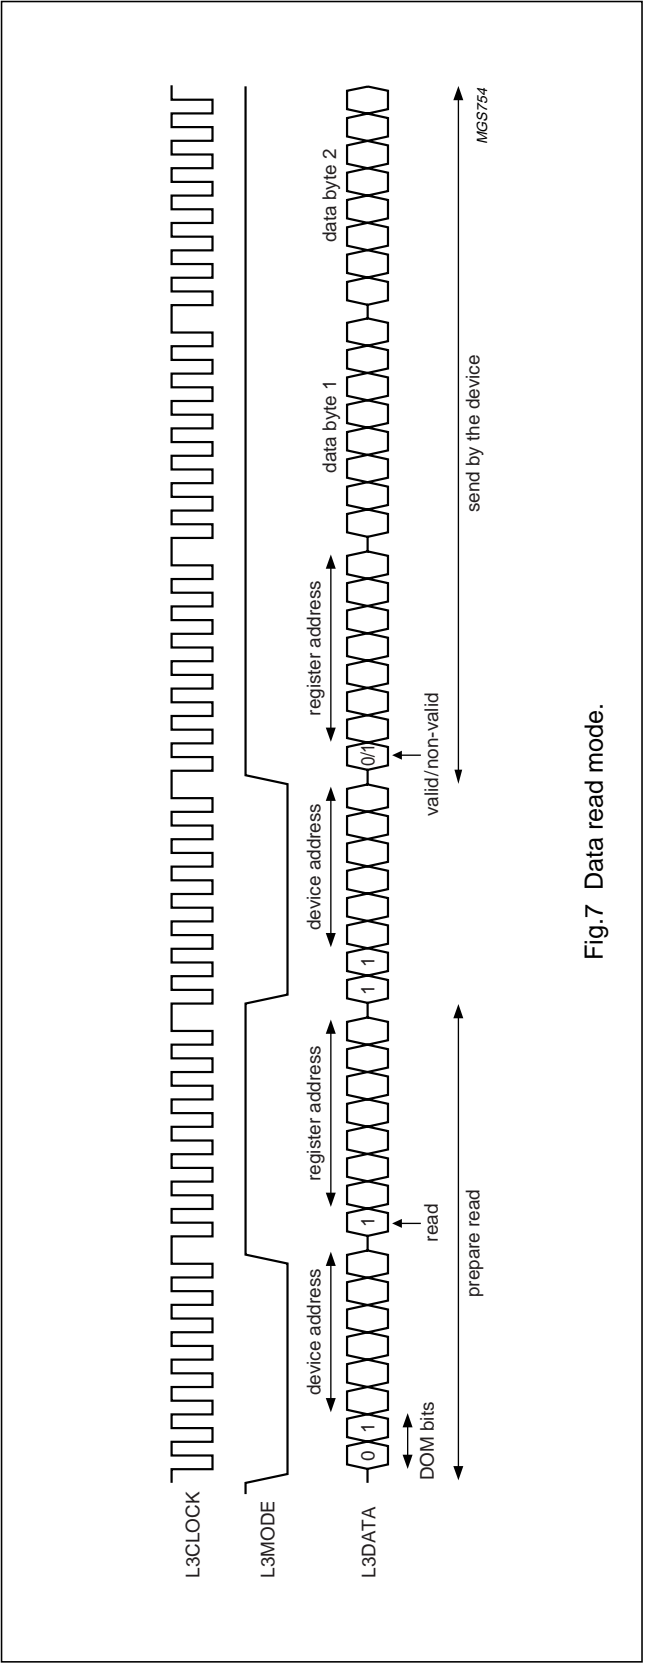

Fig.7 Data read mode.
2. Addressing for prepare read: bit 0 is logic 1 indicating that data will be read from the register (see Fig.7).
For reading data from the device, first a prepare read must be done and then data read. The data read mode is explained in the signal diagram of Fig.7.